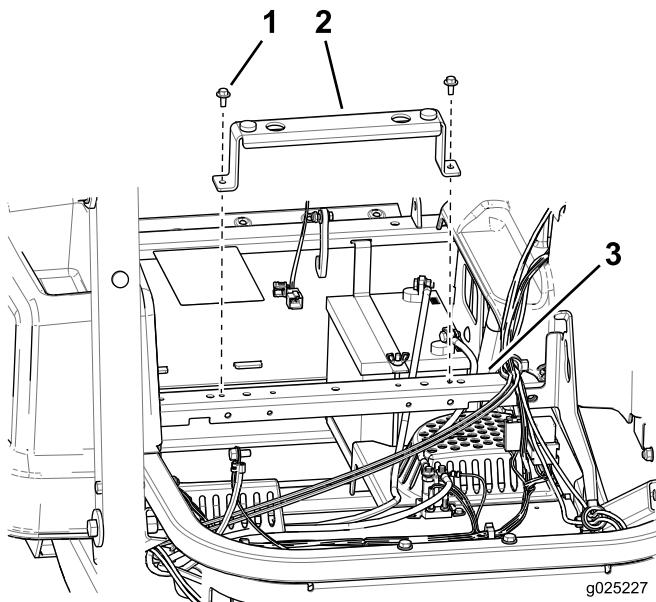

Figure 5
- Install the seat support to the frame of the machine with 2 thread-forming bolts (1/4 x 1/2 inch) (Figure 5).